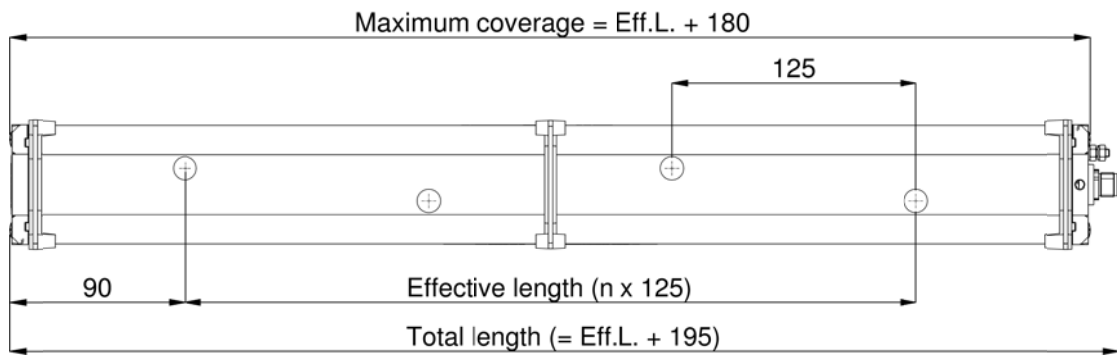

Figure 3: Thunder/ON with ≥ 4 emitters
1. Mount the anti-static bar using the mounting materials provided (see fig. 3, 4, 5 and 6).